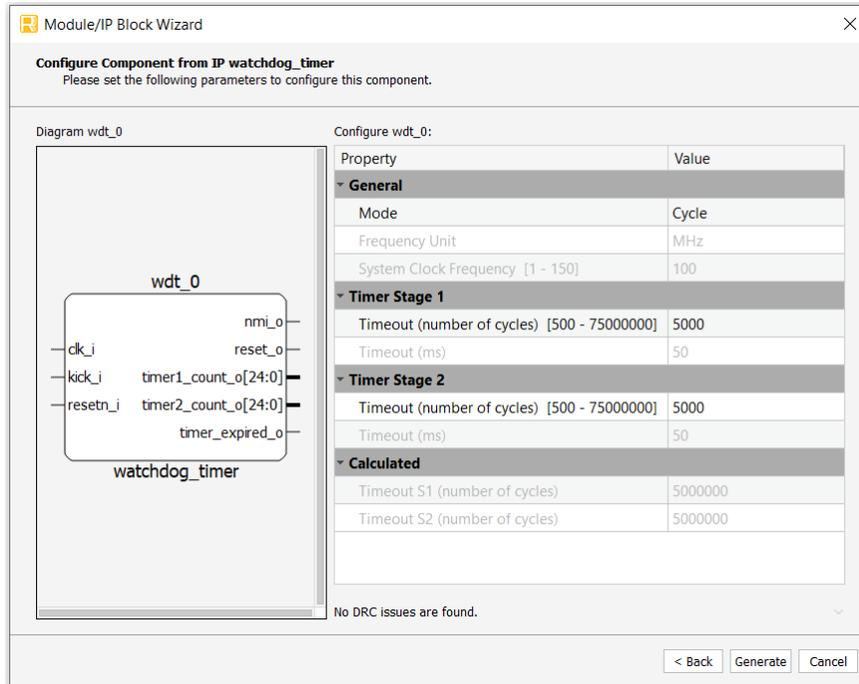

Figure 3.2. Configure User Interface of Watchdog Timer IP Core
3. In the module’s dialog box of the **Module/IP Block Wizard** window, customize the selected Watchdog Timer IP Core using drop-down menus and check boxes. As a sample configuration, see Figure 3.2 For configuration options, see the Attribute Summary section.